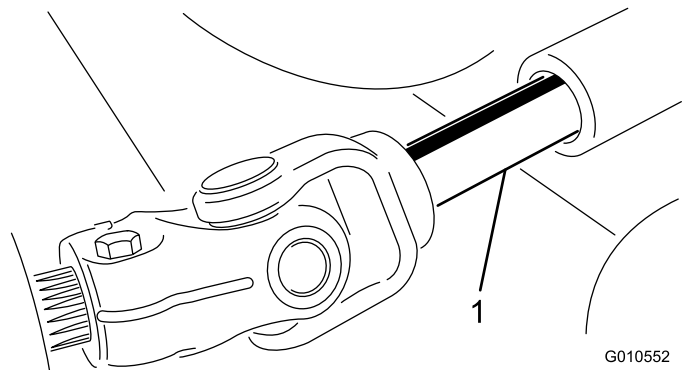

Figure 27
5. Roll the cutting unit away from the traction unit, separating the male and female sections of the PTO shaft (Figure 27).
3. Slide the male PTO shaft into the female PTO shaft (Figure 27).